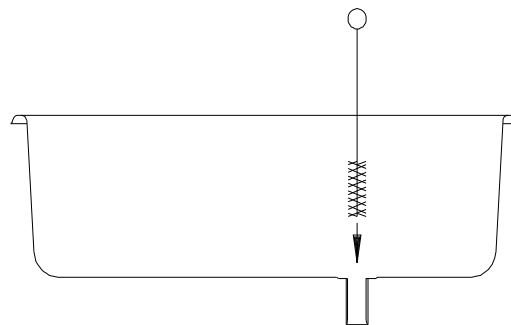

Figure 9-2 Sanitize hopper and its components
4. Pour sanitizing solution into the hopper and allow cylinder to fill. Using a clean brush scrub all sides of the mix hopper, mix level sensor, mix float, the mix feed tube, and the mix feed port from the hopper to the cylinder. See figure 9-2.